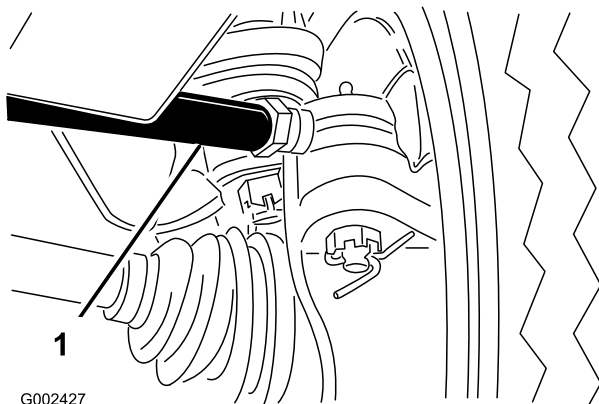

Figure 58
- On the left front wheel, loosen the jam nuts at both ends of the turn buckle (Figure 58).